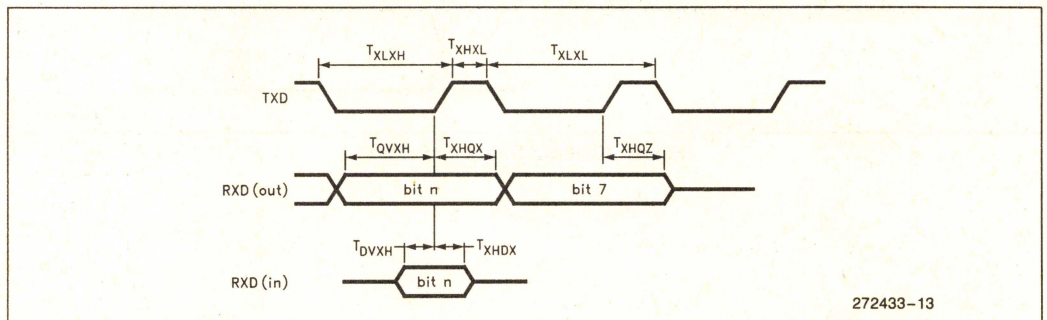

Figure 12. Serial Port Mode 0 Waveform
1. See Figure 12 for waveforms.